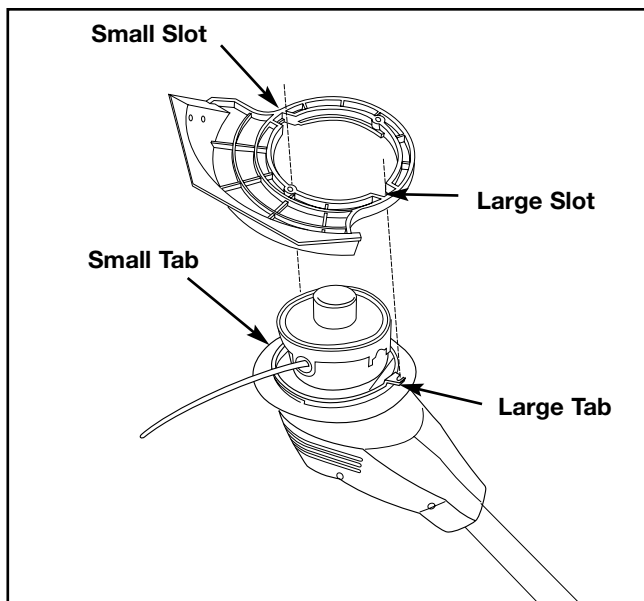

Fig. 4
1. Place the string guard onto the motor assembly. Line up the small tab with the small slot and the large tab with the large slot (Fig. 4).